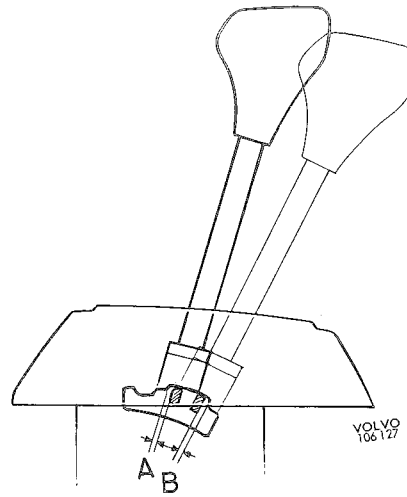

Fig. 4-65. Adjusting selector controls
2. Adjust the length of the shift rod so that there is a small gap (min. 1 mm=0.04", see B, Fig. 4-65) between the selector lever inhibitor and inhibitor plate when the rod is connected to the lever on the transmission.